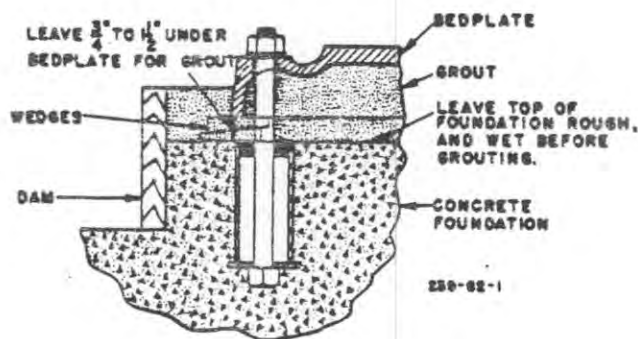

Fig. 1
washer between bolt head and sleeve to hold bolt in position. See Fig. 1. Stuff waste around foundation bolts to prevent concrete from entering between the bolt and pipe sleeve.
- (c) The foundation bolts should be of sufficient length so that they project through the nuts approximately  $\frac{1}{4}$ " after allowance has been made for grouting ( $\frac{3}{4}$ " to  $1\frac{1}{2}$ "), the thickness of the bedplate, and the thickness of the foundation bolt nut. See Fig. 1.
- (a) Build wood dam around foundation as shown in Fig. 1 and wet top surface of concrete foundation thoroughly.